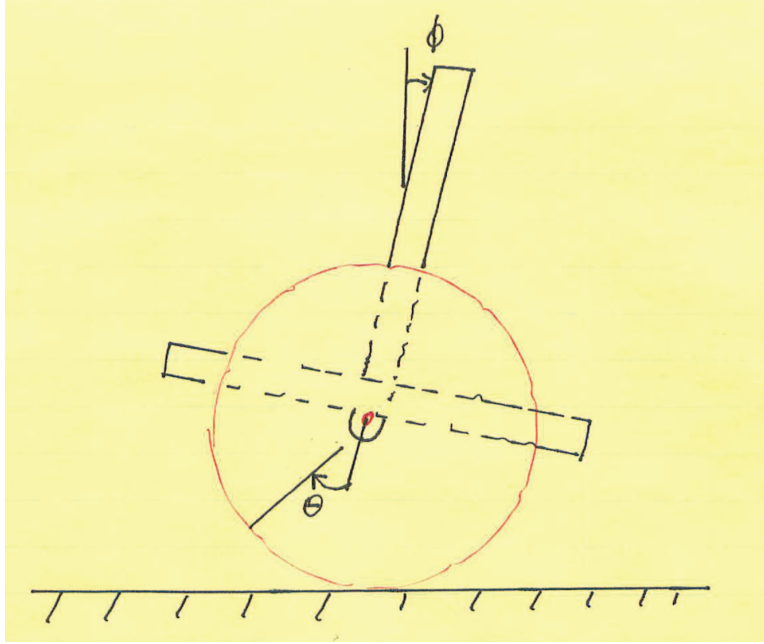

Figure 1: Crude drawing of a planar Segway.
- Look at Fig. 1 to understand the coordinates being used to model the Segway.
- Check out (9) to see the choice of state variables in the model.
- Skip to (12) to see a linear state variable model of the Segway.
Consider the planar Segway system shown in Figure 1, along with the indicated coordinates, $q = (q_1, q_2)' = (\phi, \theta)'$, where ϕ is the (absolute) angle of the pendulum with respect to the vertical, θ is the relative angle of the wheel with respect to the pendulum, and the $'$ denotes transpose. In both cases, we take clockwise to be positive. The system has one actuator u that acts at the axis connecting the inverted pendulum to the wheel; consequently, θ is the actuated variable and the angle of the pendulum is indirectly regulated through the angle of the wheel with respect to the pendulum.